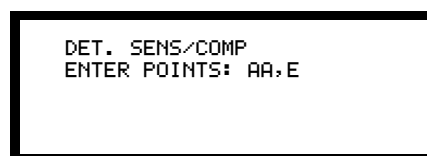

Figure 88 Detector Sensitivity/Comp Screen
1. From the Status Change screen (Figure 84 on page 93), press the **2** key to display the Detector Sensitivity/Comp screen (Figure 88).